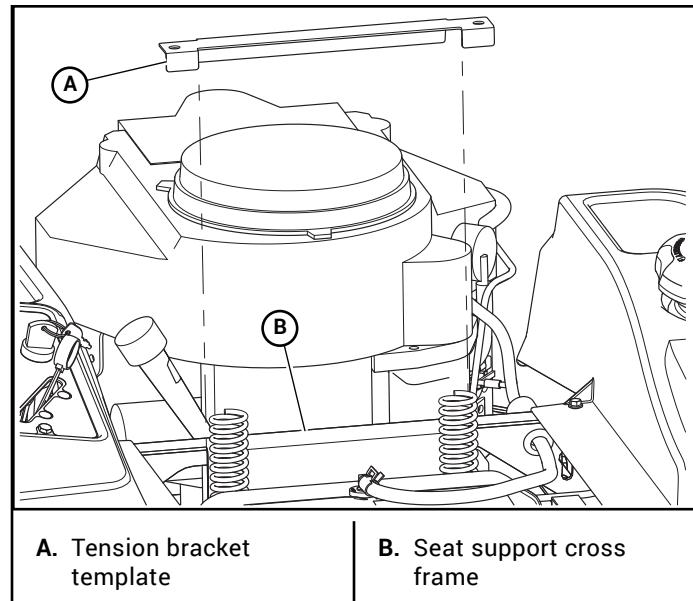

Figure 3-11
17. Place the tension bracket template on the seat support cross frame. Figure 3-11